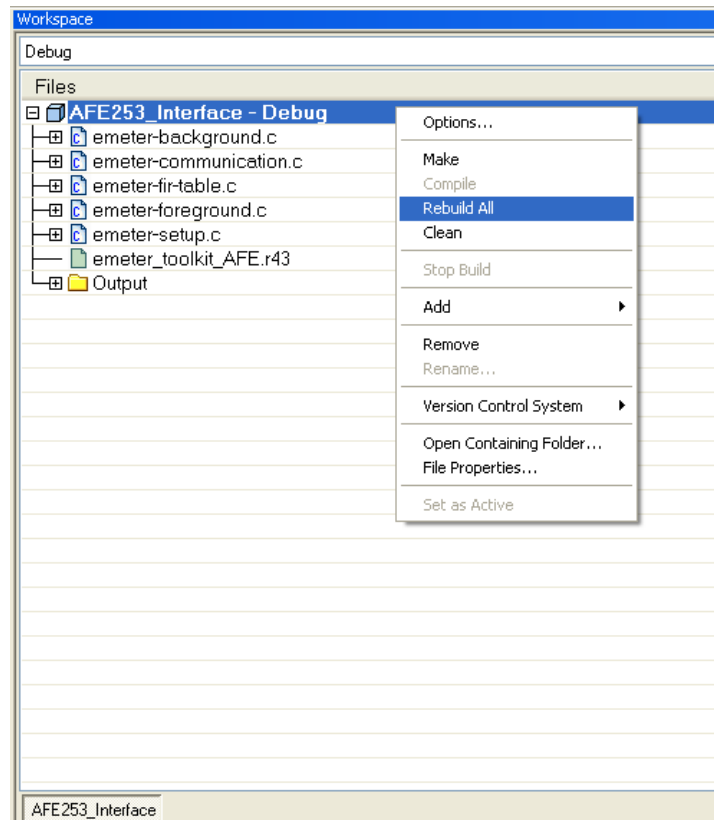

Figure 21. Metrology Compilation in IAR
5. Open the main project *AFE253_Interface.ewp* and *Rebuild All*, as shown in Figure 21.